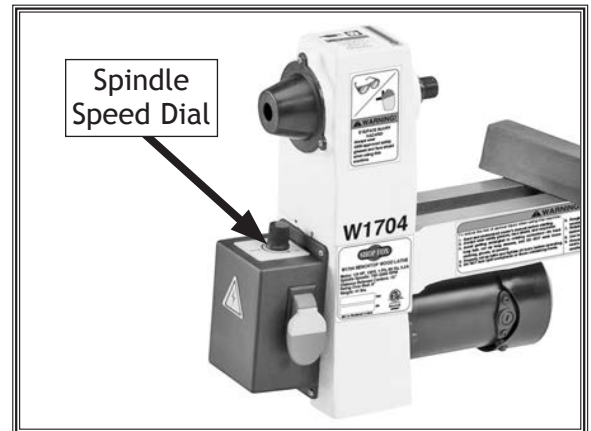

Figure 11. Location of spindle speed dial.
2. Turn spindle speed dial all the way counterclockwise (see **Figure 11**).